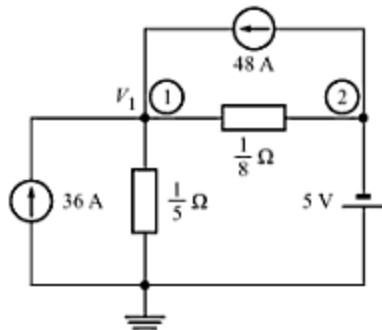

Fig. A-101
- A-65. Determine the node voltages V_1 and V_2 in the circuit of Fig. A-101.